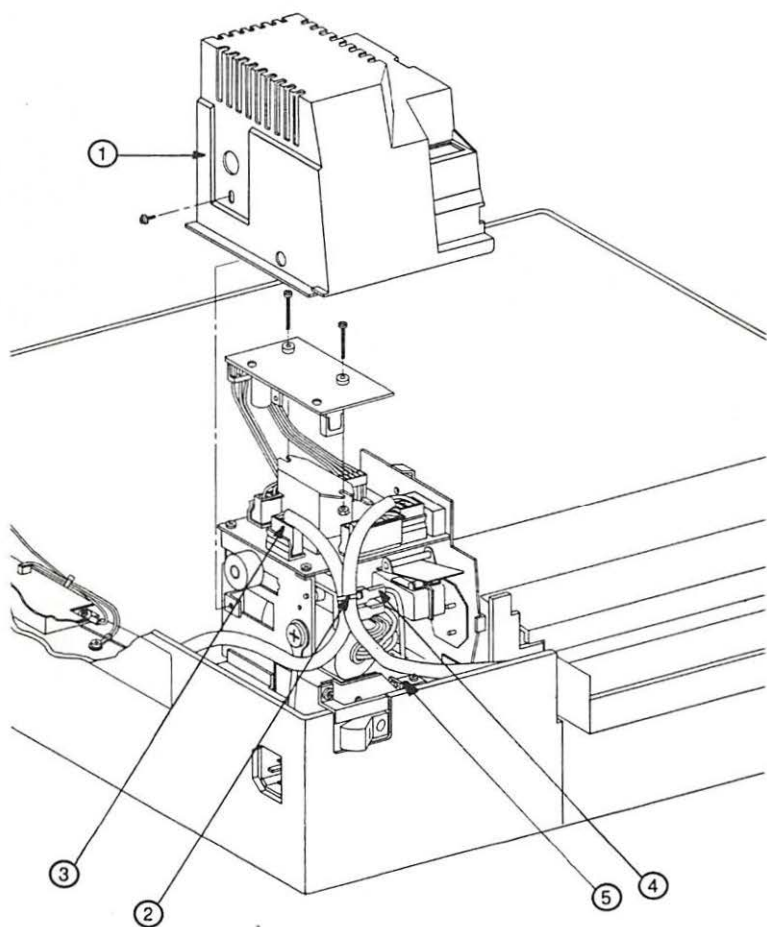

FIGURE 2-43
7. Open the printer and remove the power interlock assembly cover (see Figure 2-43, #1).
8. Clip the cable tie that holds the three large cables together (Figure 2-43, #2).
9. Unplug the large black cable from J103 (Figure 2-43, #3). (You may need to pry it up with a screwdriver blade.)
10. Above the power switch you will find four black wires that attach by spade connectors to the power interlock assembly (Figure 2-43, #4). Disconnect the two upper wires.
11. Remove the screw and wedge at the base of the power interlock assembly (see Figure 2-43, #5).